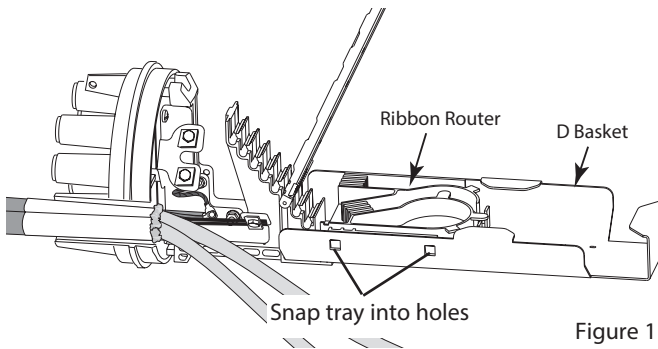

Figure 1
1. Raise or remove the upper splice organizer trays to expose the D basket. If you have not previously installed the basket, refer to the installation instructions in the FOSC ACC D basket or basket-tall kit. (Figure 1)